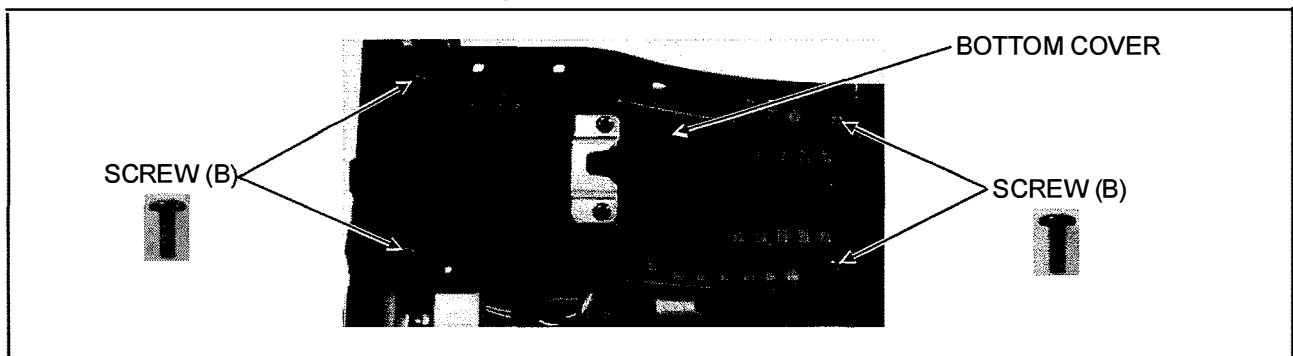

Figure 7-2
4. Unscrew the 4 screws (B) as shown in figure 7-2 and remove the BOTTOM COVER.